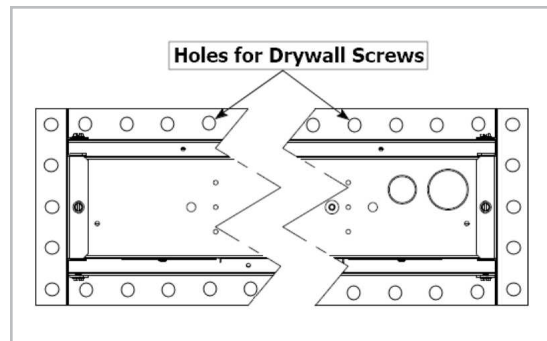

Figure 11: Drywall Screw Holes
2. Fixtures are mounted in framed plaster drywall ceiling with dry-wall screws. Drywall screws are inserted through holes in fixture trims and end cap trims. See *Figure 11*.